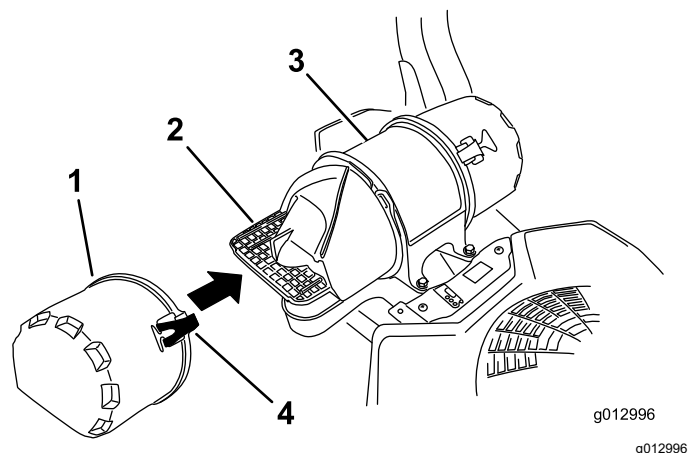

Figure 42
3. Release the latches on the air cleaner and pull the air-inlet cover off the air-cleaner body (Figure 42).
5. Install the air-inlet cover and secure it with the latches (Figure 42).